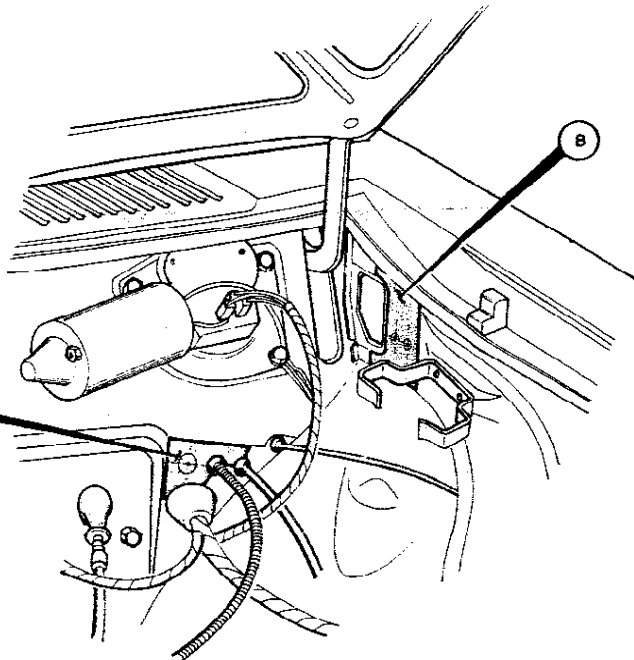

FIG. 2
2 - COLOQUE OS GABARITOS (A) & (B) CONFORME MOSTRADO NA FIG. 2 E FURE OS PAINÉIS, COMO INDICADO NO RESPECTIVO GABARITO.